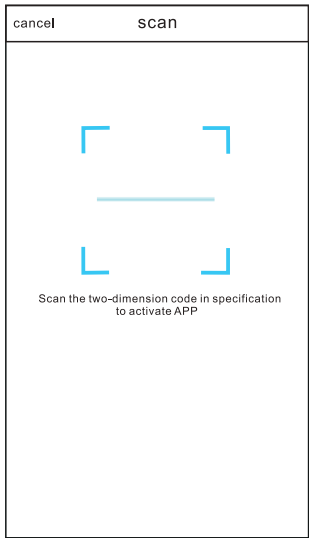

Figure 3
1. By clicking "scan" and scanning the QR code on the right . (See Fig.3)